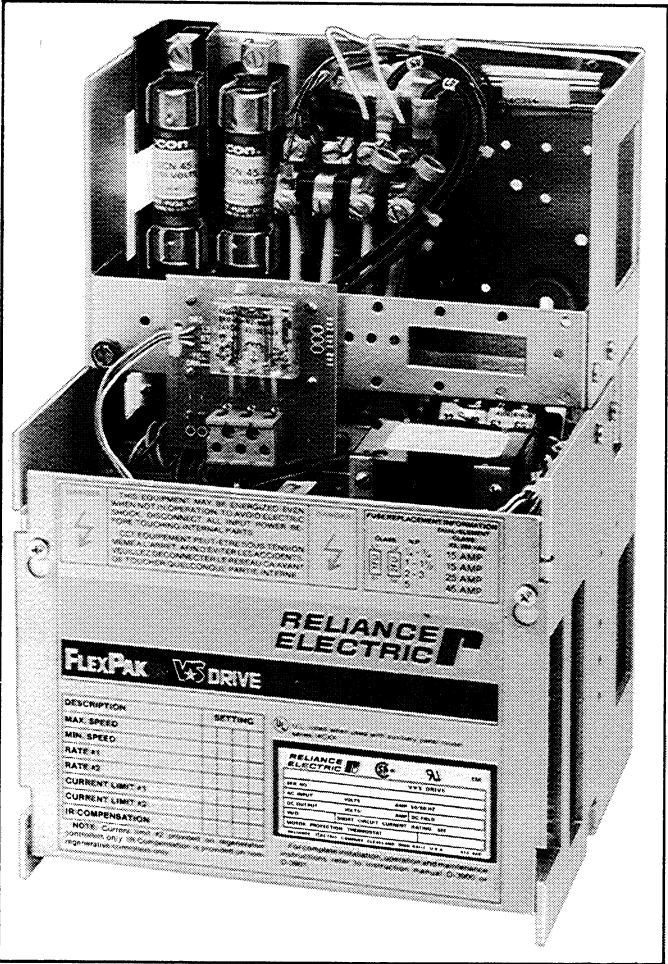

Figure 1.1. Typical Regenerative FlexPak Plus (S2R) Controller.
1.0 General — This manual familiarizes the user with the Regenerative FlexPak™ Plus (S2R) D-CV★S® drive controller. (Refer to Figure 1.1.) It describes assembly and installation procedures, gives a general overview of operation, and contains information on troubleshooting, maintenance, the ordering of spare parts, and specifications.